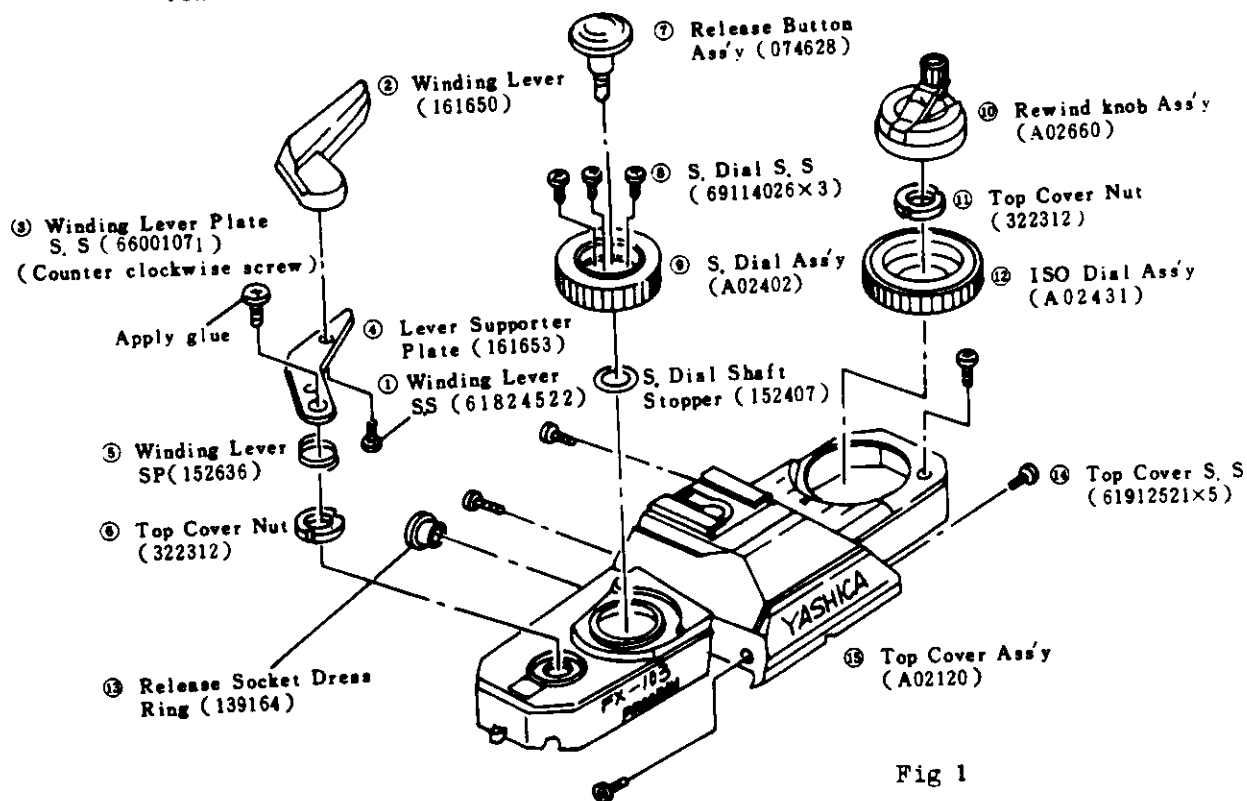

Fig 1
(1) Top Cover;
Remove the respective parts ①~⑮ shown in (Fig 1) in numerical order.